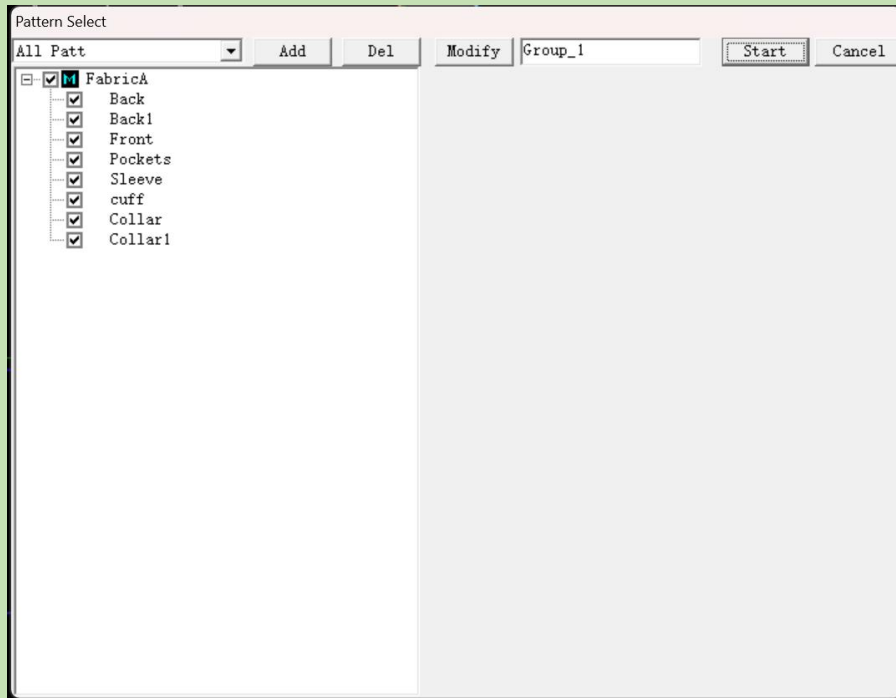

Figure5-69
1. pattern Select: Select pattern for relevant operations as shown in Figure 5-69.